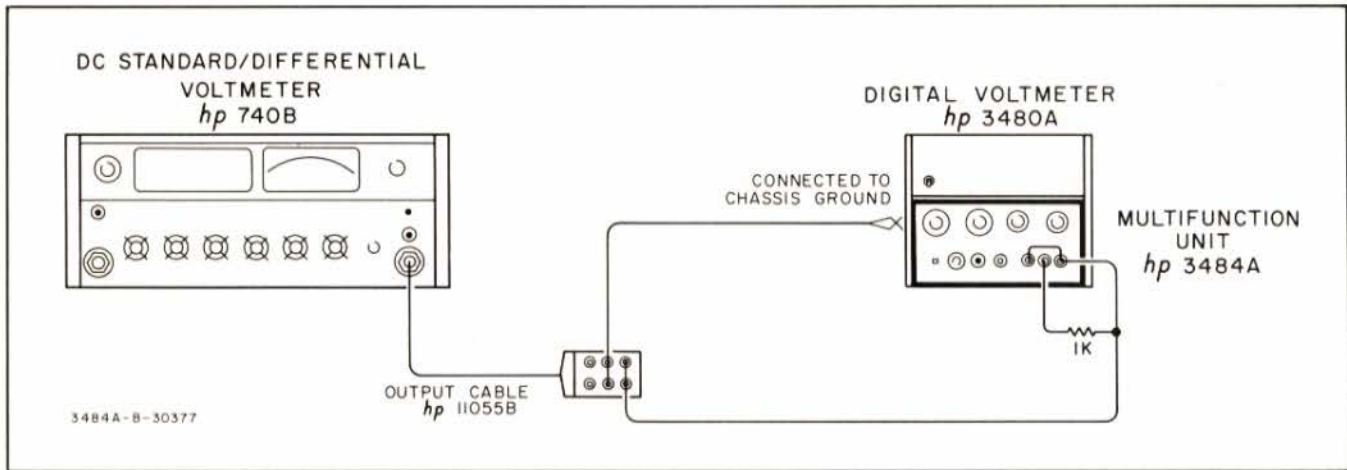

Figure 5-3. DC Common Mode Rejection Check.
- a. Connect a 1 k Ω resistor between 3484A HIGH and LOW terminals, and connect HIGH to GUARD as shown in Figure 5-3.
- c. Connect dc standard to 3480A/B/3484A as shown in Figure 5-3, connecting LOW side of standard output to 3480A/B chassis ground. A rear panel mounting screw head makes a good ground connection. Do not use BCD output connector J13 as ground.